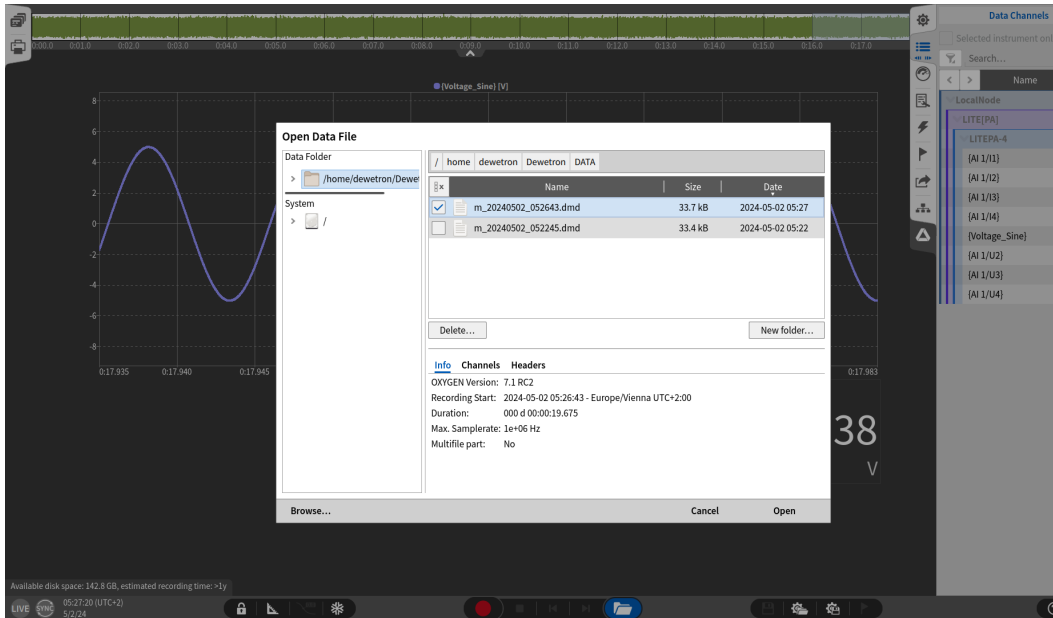
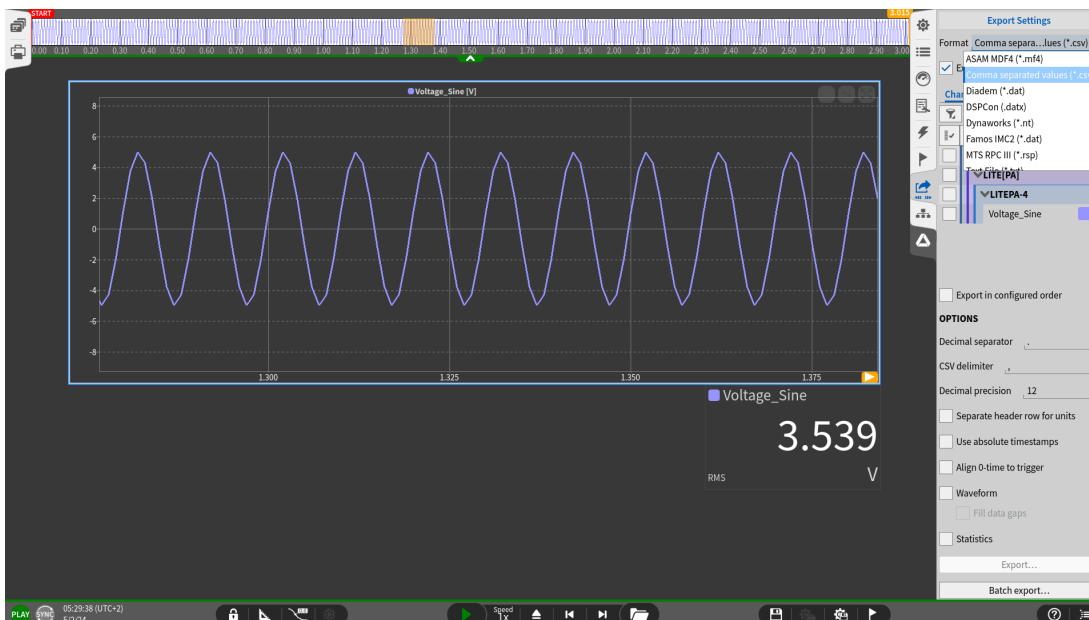

Fig. 31: Opening data file
Fig. 32: Exporting data file for post-processing
1. Click on the file button, and select the corresponding file (see Fig. 31). The green border and PLAY indicator in the lower left corner indicate that a file is loaded for post-processing (see Fig. 32).
4. Click on the export button seen in Fig. 32.